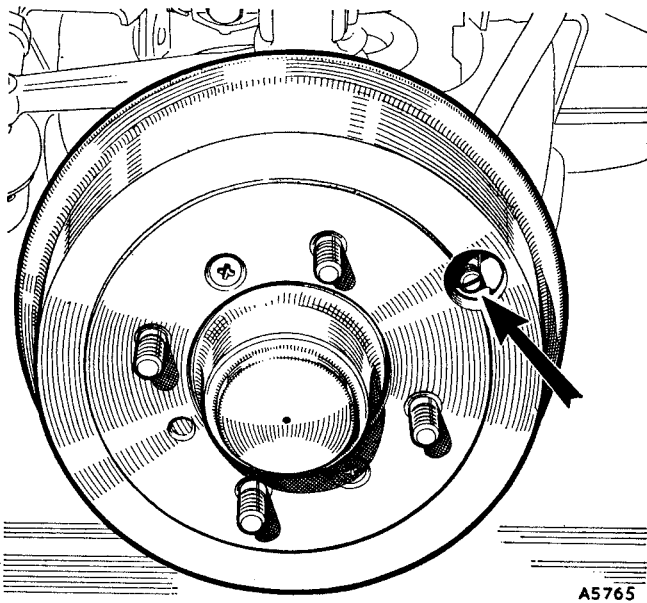

Fig. M.1
- (1) Apply the hand brake, and jack up the car until the wheel is free to rotate.
- (2) Remove the wheel disc, and the rubber plug in the drum.
- (3) Rotate the wheel until one of the adjusters is accessible through the hole in the drum (see Fig. M.1).
- (4) Using a screwdriver, turn the adjuster in a clockwise direction until the brake-shoe contacts the drum.
- (5) Turn the adjuster back just sufficiently for the wheel to rotate without the brake-shoe rubbing the drum.